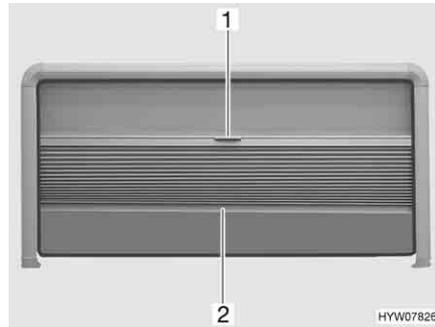

Fig. 56 Hinged window
- Hold the Roman shade in the centre of the bottom rod (Fig. 56,2) and carefully draw it downwards.
- Hold the bottom rod (Fig. 56,2) of the Roman shade in the centre and carefully slide the Roman shade upwards.
- Pull insect screen at the handle (Fig. 56,1) downwards.
- Move insect screen at the handle (Fig. 56,1) fully upwards.